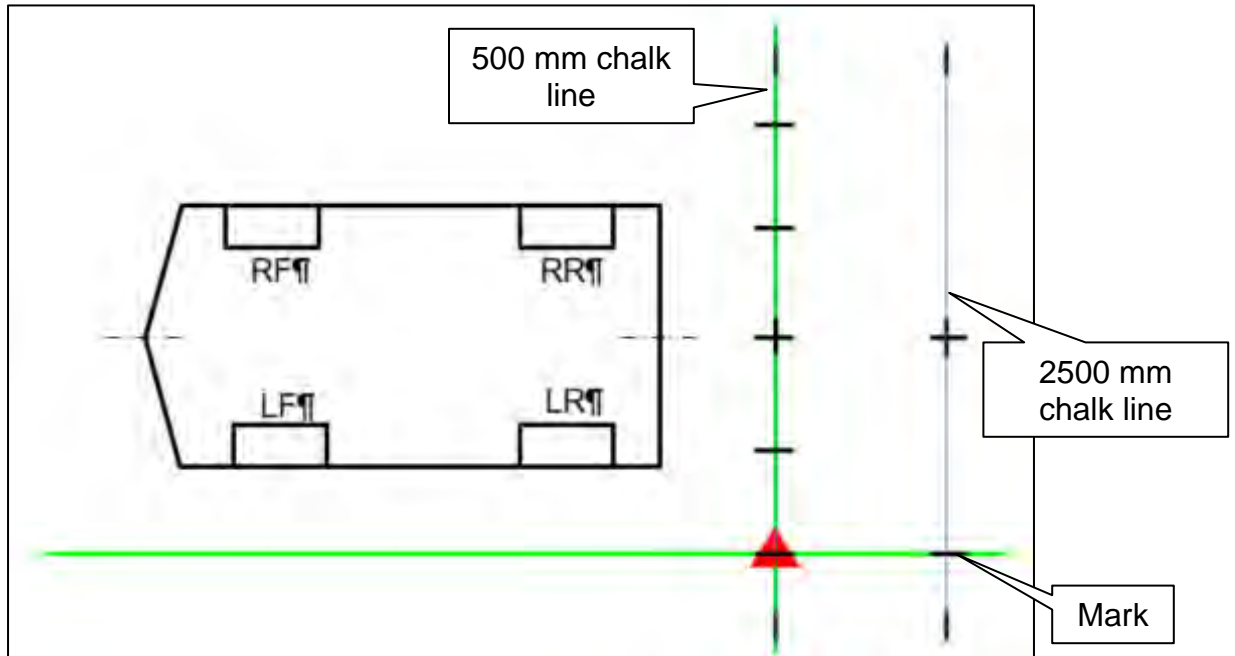
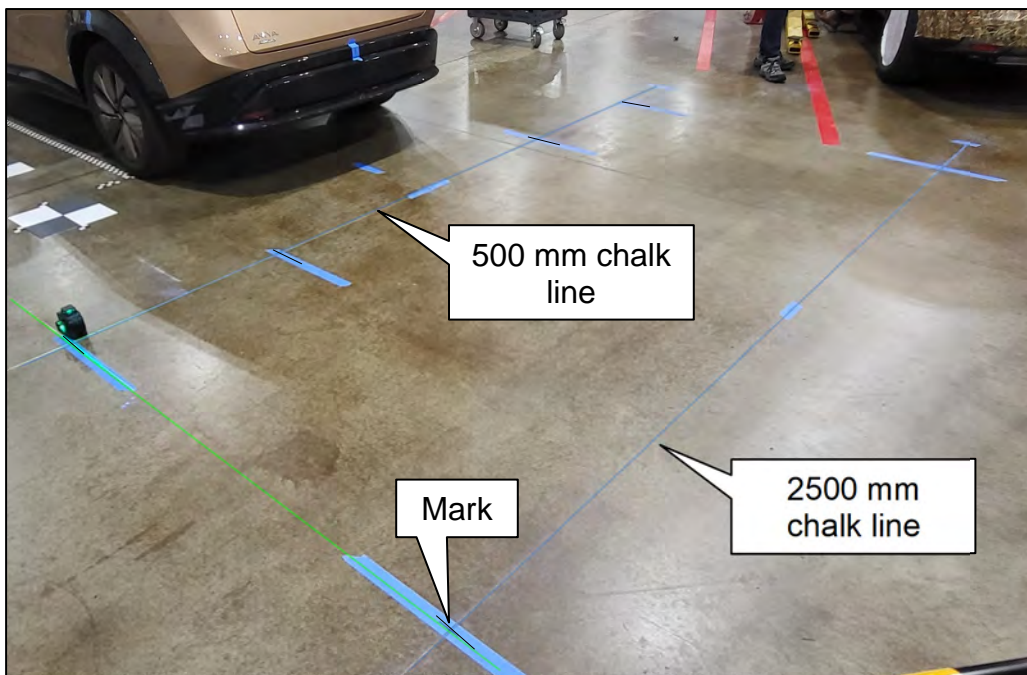

Figure 86
Figure 87
57. Move the laser level to the position shown in Figure 86, and then make a mark on the 2500 mm chalk line, as shown in Figure 86 and Figure 87.